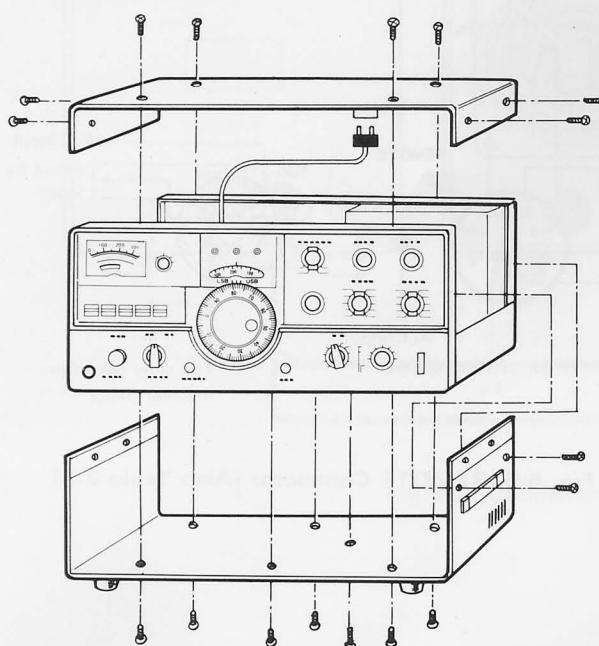

Fig. 6-1 Removing the TS-520SE's Case
■ REMOVING THE CABINET (See Figure 6-1.)
Figure 6-1 shows how to remove the TS520SE's cabinet. Remove the eight top cover screws and the nine bottom cover screws and lift away the panels. The speaker leads will still be attached to the chassis so be careful when removing the top cover. The leads can be unplugged, if necessary.